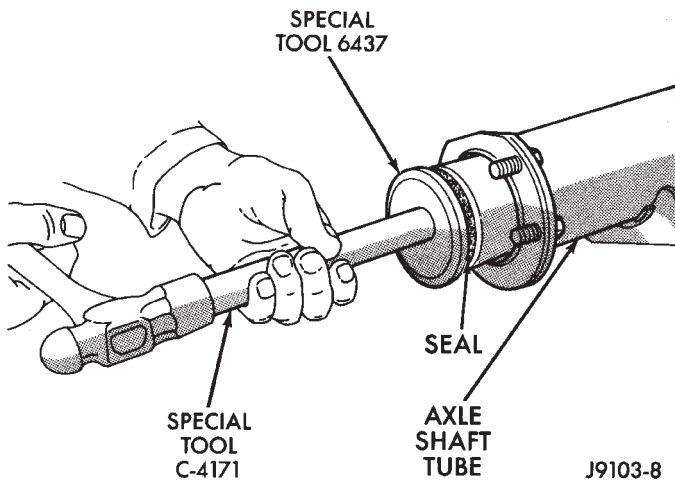

Fig. 9 Axle Shaft Seal Installation
(1) Wipe the bore in the axle shaft tube clean.
(2) Install axle shaft bearing with Installer 6436 and Handle C-4171. Ensure part number on the bearing must go against the Installer.
(3) Install the new axle shaft seal (Fig. 9) with Installer 6437 and Handle C-4171.
(4) Install the Axle Shaft. Refer to the installation procedure.